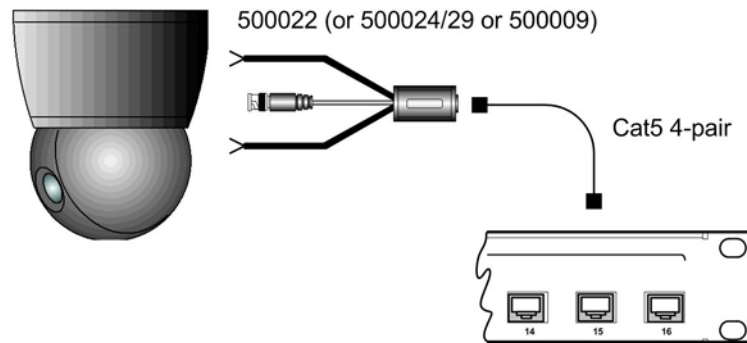

Figure 12: Camera connection
3. Connect one Cat5 cable from each camera to one of the modular RJ45 ports on the front of the Passive CCTV Hub (fig 12). Please ensure that EIA 568 wiring and straight-through polarity is respected between the CCTV balun and the rack. The use of other Cat5 connection hardware such as patch panels and 110 blocks may be used.